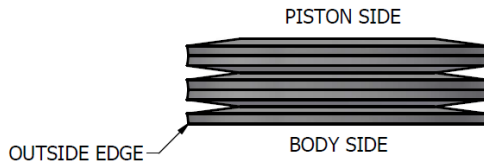

Figure 17 – Spring Stack Arrangement
- 11.8 Stack the spring washers, alternating dish up and dish down. See Figure 17.